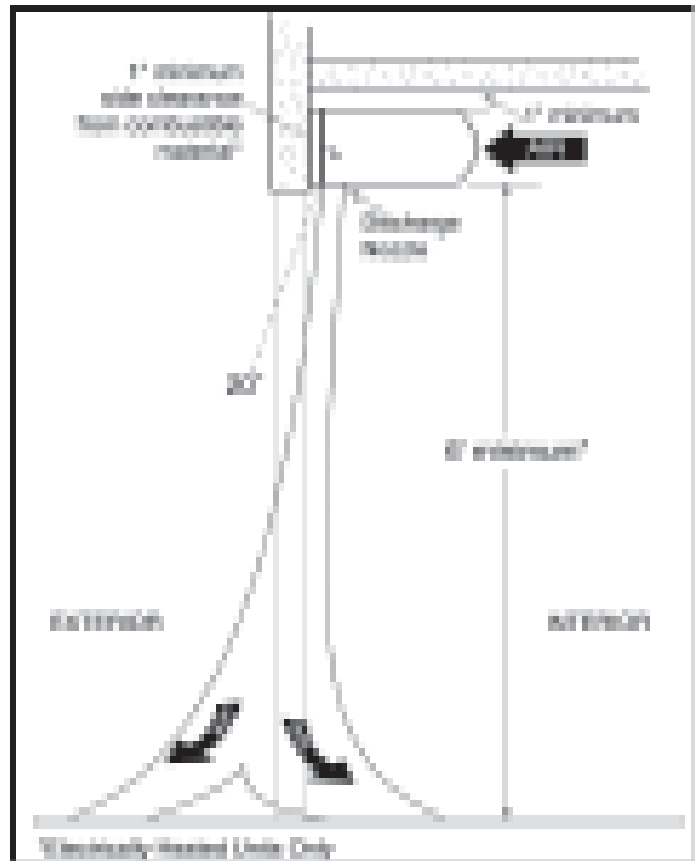

FIGURE 1 - Mounting Location
- A. When determining the mounting location for the unit(s), make sure that nothing interferes with the curtain of air developed when the discharge vanes are directed from 0° to 20° toward the door opening. If the air stream strikes any obstruction (the top edge of the doorway, a door opening device, etc.), the effectiveness of the unit will be greatly reduced. **See Figure 1**